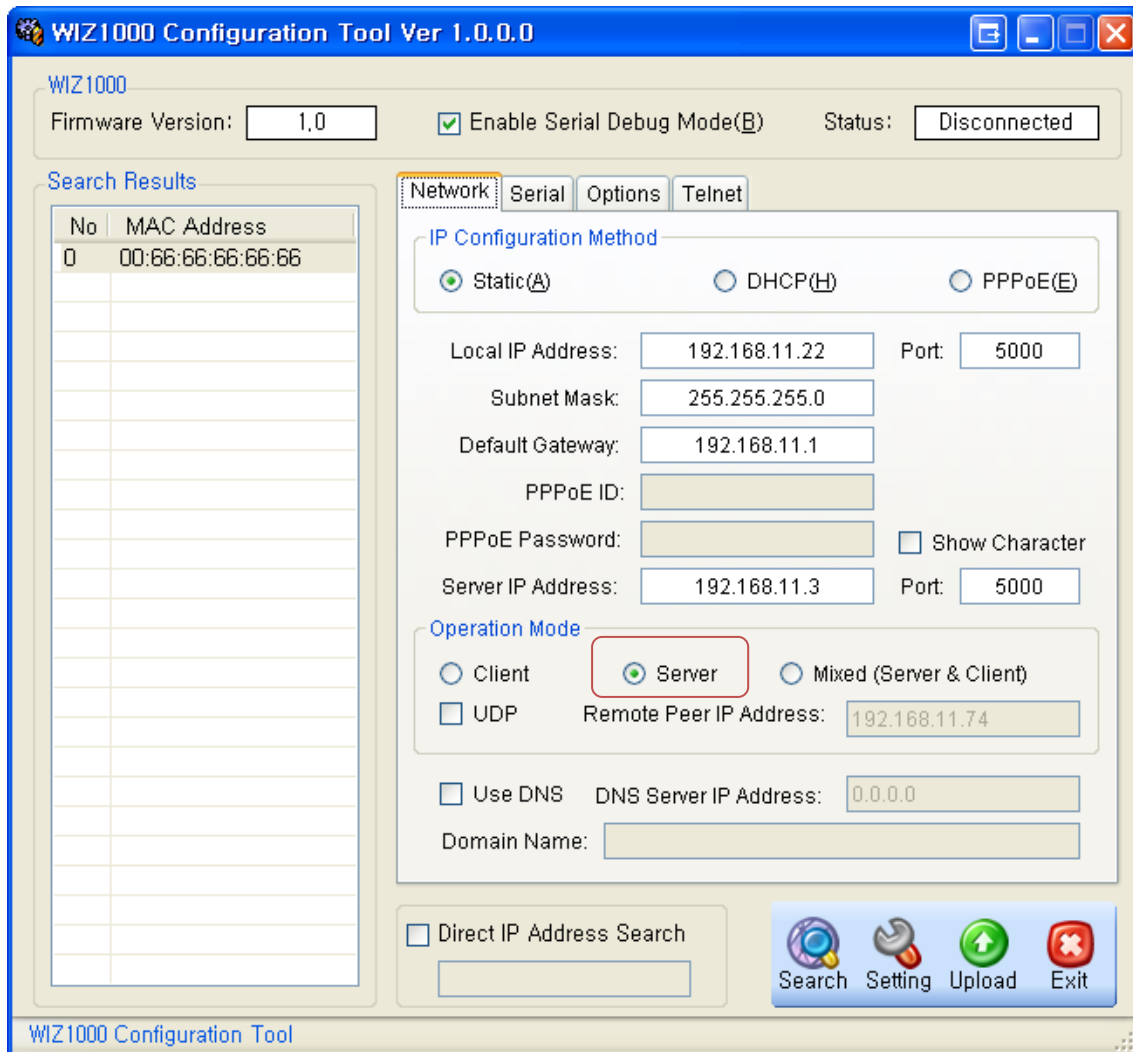

Figure 10. Option Mode for Password Configuration
- ③ Select a module shown in "Board list", and click "Upload" button.
- ⚠ Before uploading through Ethernet, you should set the network information of WIZ1000 first by Configuration Tool program as shown above Fig 10. By using Ping test,**
- ④ When the window as shown below Figure is displayed, select file for upload and click “Open” button.